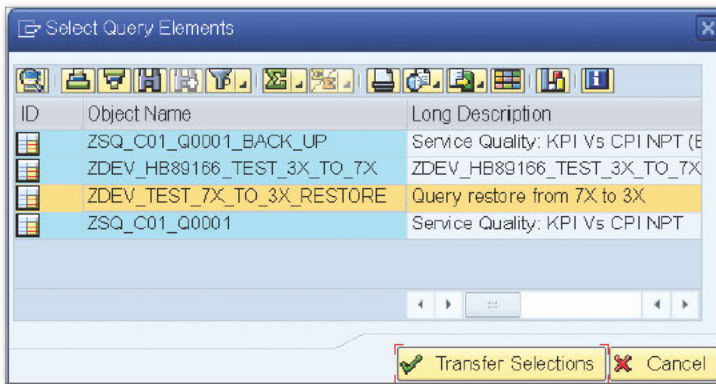

Figure 3 Selecting Query to Be Restored
3. In the following screen shown in Figure 3, select the query that has to be restored to version 3.x.